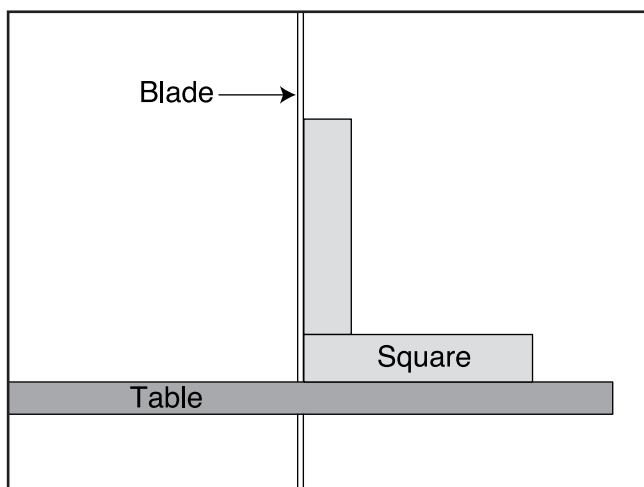

Figure 20. Squaring table to blade.
4. Raise the guide post and place a machinist's square on the table next to the side of the blade as illustrated in **Figure 20**. Adjust the table square with the blade, then secure with the table tilt knobs.